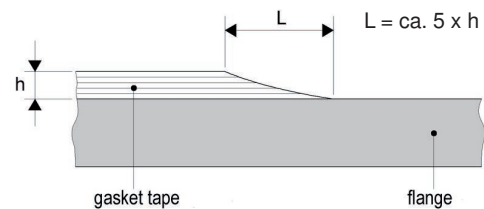

Figure 1
- Subsequently execute a bevel cut as shown in Fig. 1.